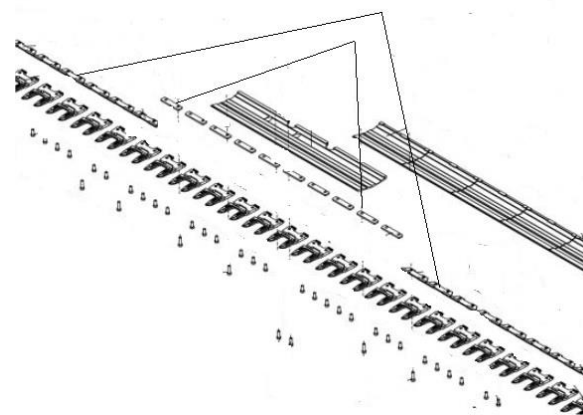

Figure 126
2. The wear plates go under the guards on the outer side of the cutterbar. The spacers go on the center guards. Figure 126